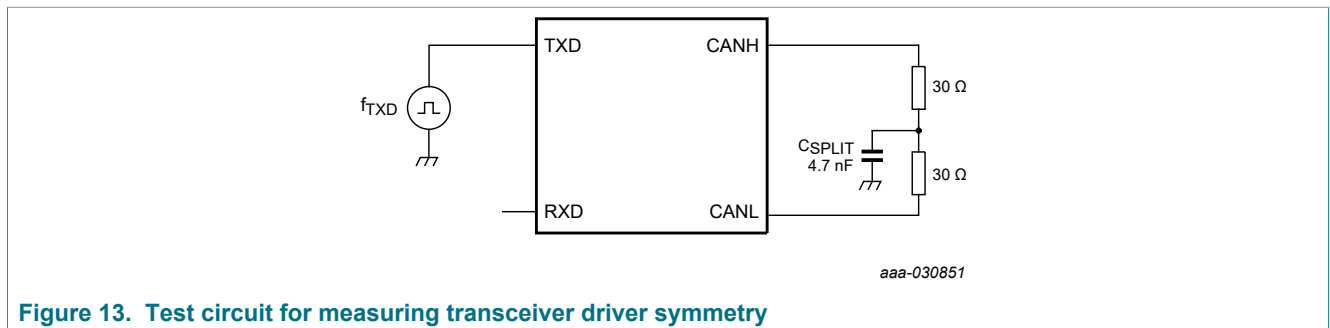

Figure 13. Test circuit for measuring transceiver driver symmetry
- [5] The test circuit used to measure the bus output voltage symmetry and the common-mode voltages (which includes  $C_{SPLIT}$ ) is shown in Figure 13.